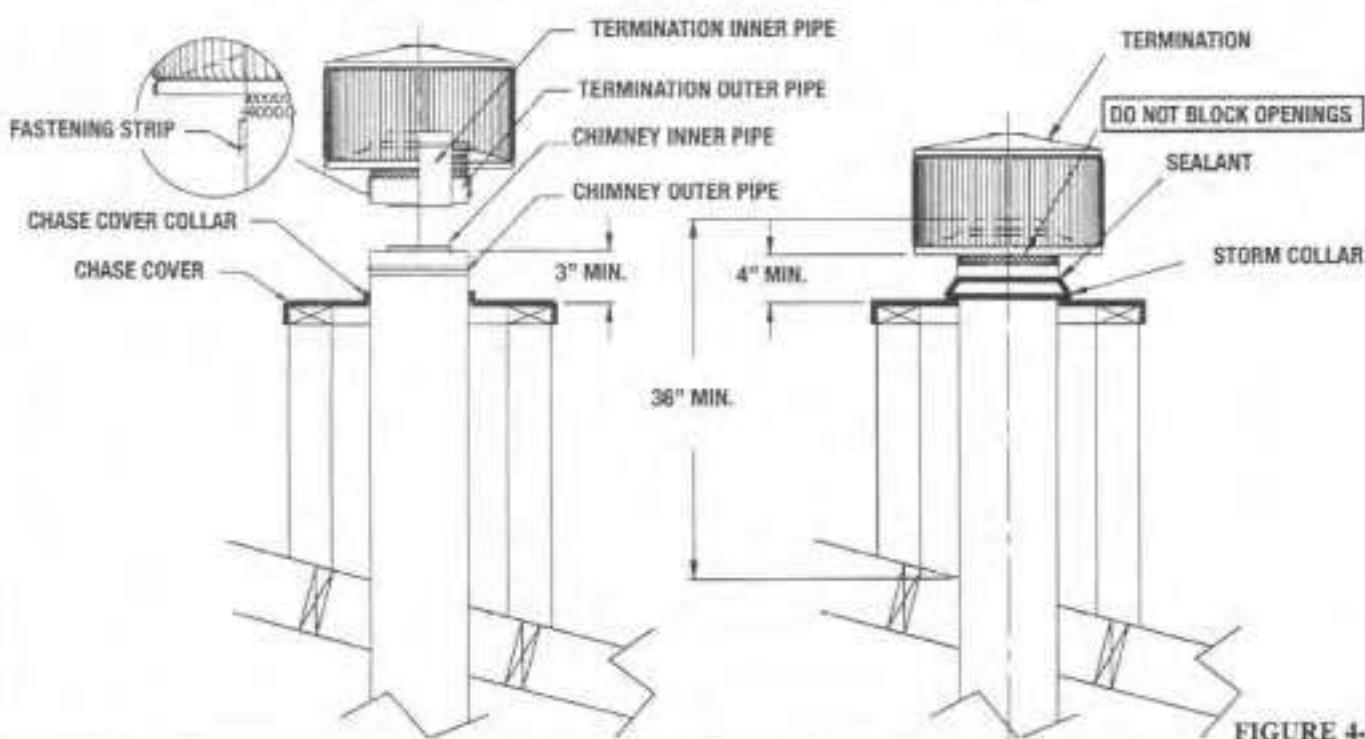

FIGURE 4-16
- Push the termination assembly down onto the chimney until the outer pipe engages the fastening strips on the termination outer pipe. (See Figure 4-16).
- Secure the termination by installing three (3) sheet metal screws through the outer pipes. One screw on each of the termination's fastening strips.
4. Ensure that the outer pipe extends at least 3 inches above the chase cover. (See figure 4-16).
8. Secure the termination by installing three (3) sheet metal screws through the outer pipes. One screw on each of the terminations fastening strips.